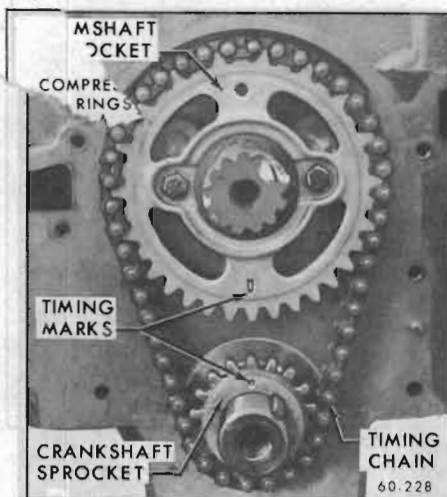

Figure 60-342—Installation of Timing Chain and Sprocket
1. With timing chain cover removed (subpar. a above) temporarily install crankshaft pulley bolt and washer in end of crankshaft. Turn crankshaft so sprockets are positioned as shown in Figure 60-342. Remove crankshaft pulley bolt and washer using a sharp blow on the wrench handle, so that the bolt can be started out without changing position of sprockets.
See Figure 60-342. Remove sprocket.
3. Assemble timing chain on sprockets and slide the sprocket and chain assembly on the shafts with the timing marks in their closest together position and in line with the sprocket hubs. See Figure 60-342.